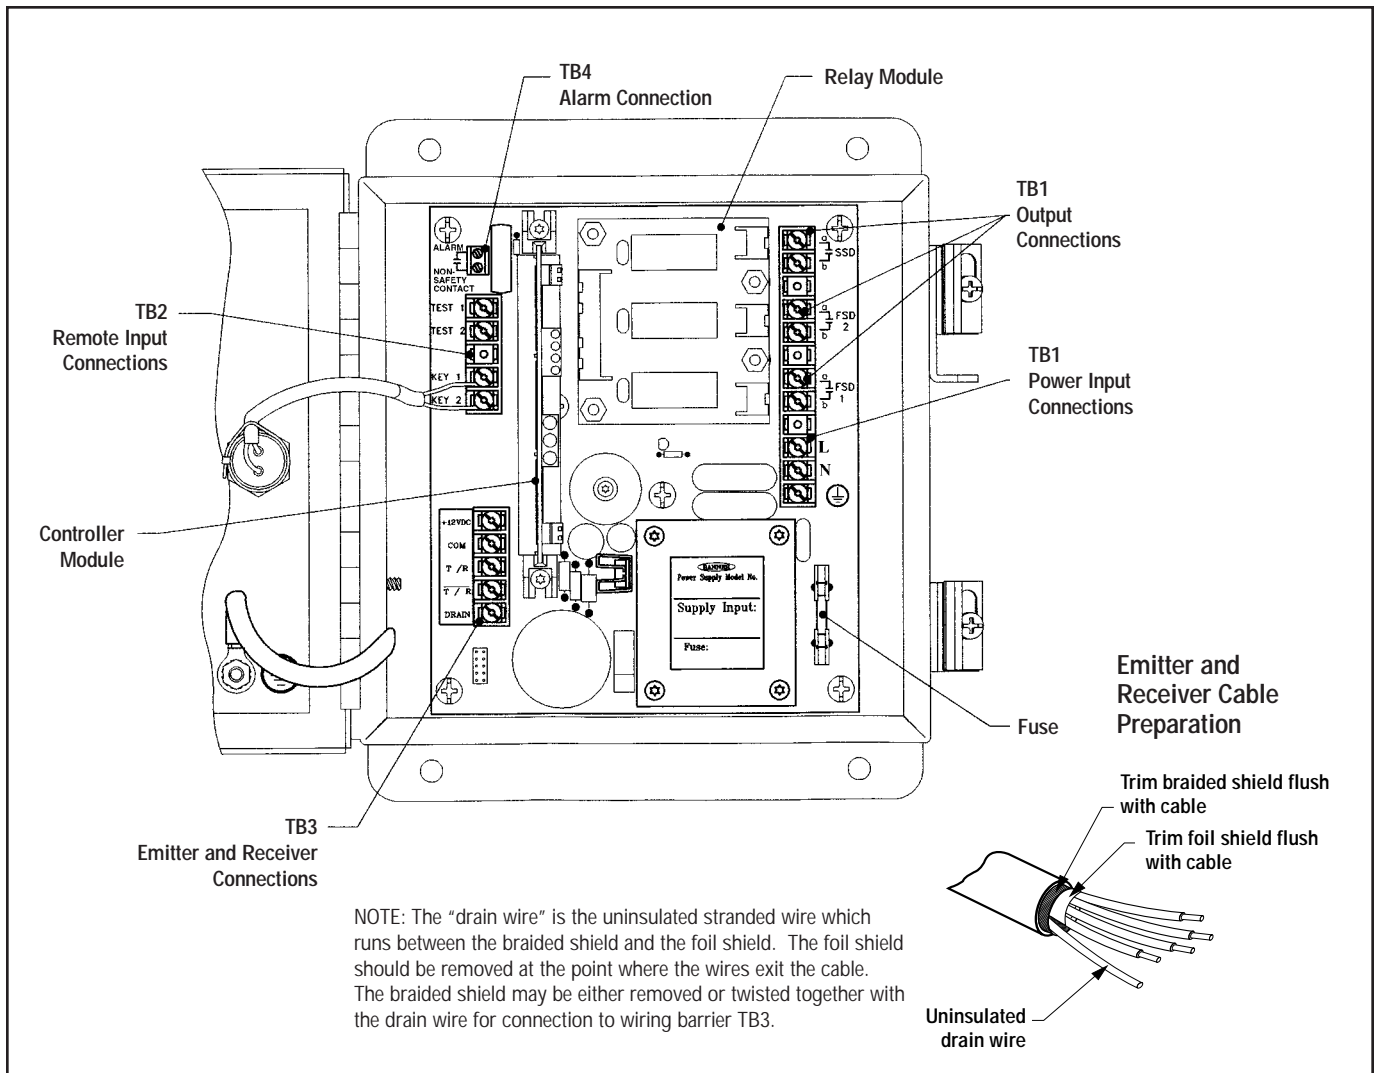

Figure 20. MINI-SCREEN system electrical connections
The emitter and receiver cables require two control box knockouts. Two cable gland strain relief fittings are supplied with each control box for the entrance of emitter and receiver cables into the control box. Emitter and receiver cables both connect to wiring barrier TB3 (Figure 20, above); route the cables through the knockouts nearest to barrier TB3. *Use only Banner QDC Series cables (see page 54) to ensure reliable communication of data between the controller and the sensors.* Match the color-coded terminals of wiring barrier TB3 to colored wires in each 5-conductor cable. **Double-check your wiring; incorrect wiring can lead to component damage.**
*Remote Test Input* connects to the Test 1 and Test 2 terminals of TB2 (see Figure 20, page 25). When connected together (shorted) for a minimum of 50 milliseconds, these terminals provide the MINI-SCREEN System with the equivalent of a BLOCKED beam condition, for testing purposes. The switch or switching device used to short the Test contacts must be capable of switching 15 to 50V dc at 20 to 100 mA dc.